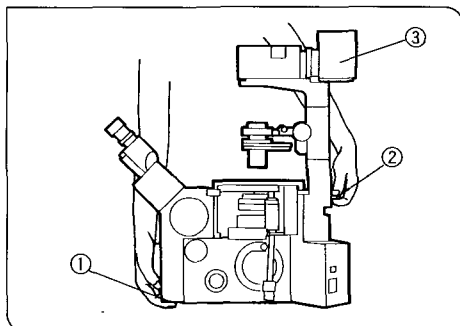

Fig. 2
2. The surfaces of the lamp housing ③ on the illumination column will become extremely hot during operation. When installing the microscope, make sure to allow ample free space around and in particular above and below the lamp housing. (Fig. 2)
3. When moving the microscope, grip at the designated position ① and the handle ② on the illumination column IX-ILL100 (the IXILL30 has a groove instead of the handle). (Fig. 2)